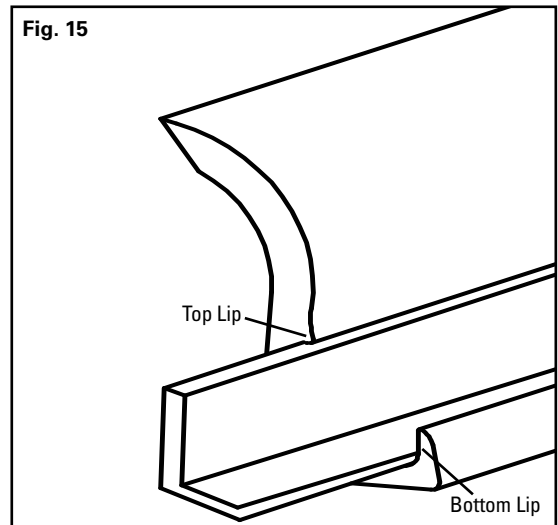

Fig. 15
3. Catch bottom lip of blade on lower front edge of belt cleaner bar (Fig. 15).